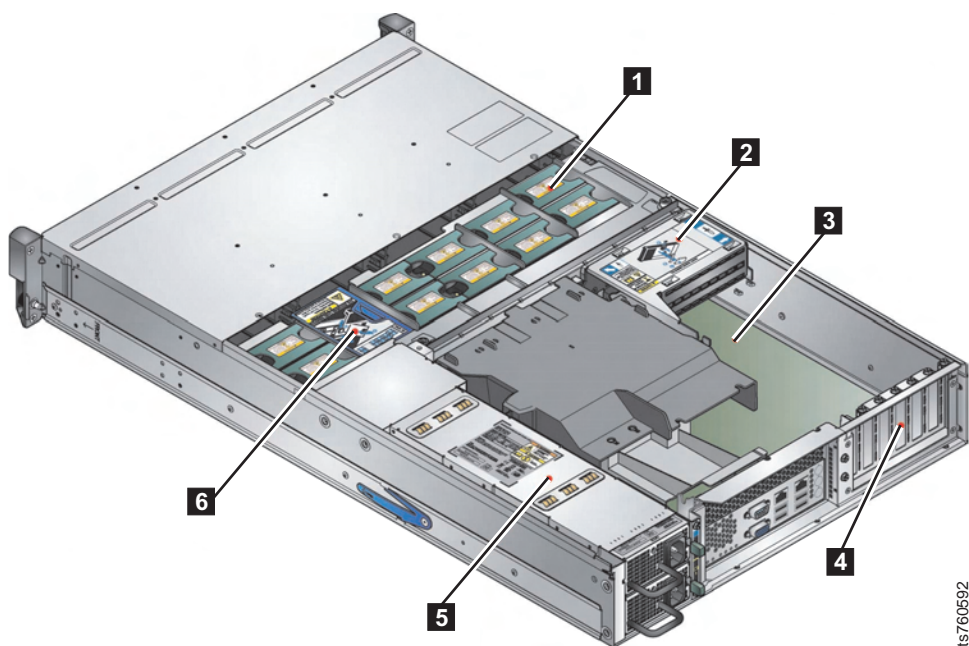

Figure 36. Location of boot drive assembly
4. See Figure 36 on page 60 where **2** shows the location of the boot drive assembly within the chassis.